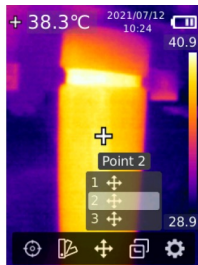

Fig. 10
2. Use the  and  buttons to toggle through the list of temperature points (Fig. 10).